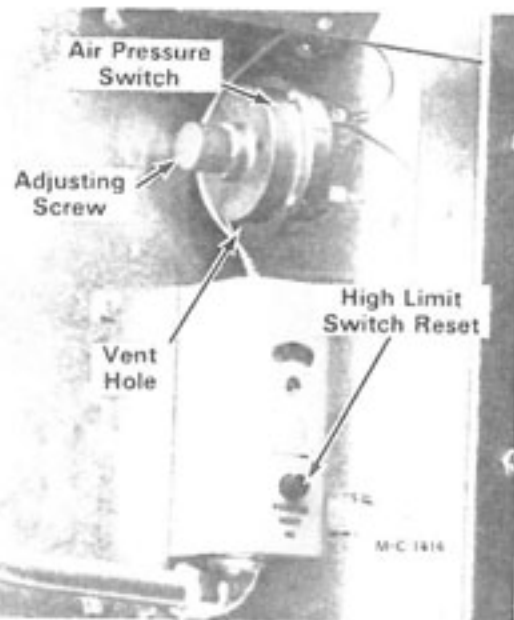
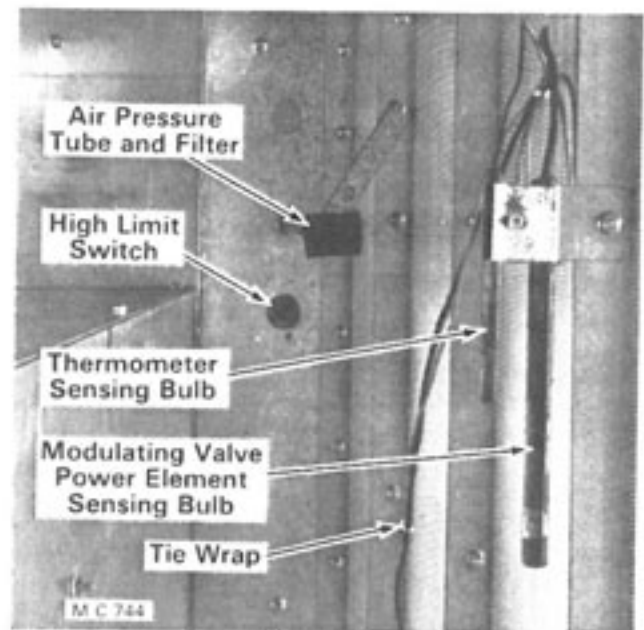

Figure 4 - Adjustable High Limit Switch
Figure 5
6. Flip the control circuit toggle switch ON. The control circuit ON light and high limit lights will be on. If the high limit light(s) are not on, push the reset button on the high limit switch, see Figure 4.
1. There is an air pressure switch for each heat chamber, see Figure 4. The air pressure switch senses the static air pressure in the heat chamber when the dryer is full of grain and the fan is running. If the static air pressure drops because of fan failure, the air pressure switch opens stopping current flow to the ignition switch. The gas solenoid valves will close and the burner will shut down.
NOTE: If the light does not come on, remove the air pressure switch and check to be sure the $\frac{1}{8}$ " vent hole in the bottom of the air pressure switch is open, see Figure 4. Also check for an obstruction in the air pressure tube and filter, see Figure 5.
1. Remove the plastic cap on the air pressure switch. The slotted screw is the adjusting screw, see Figure 4.